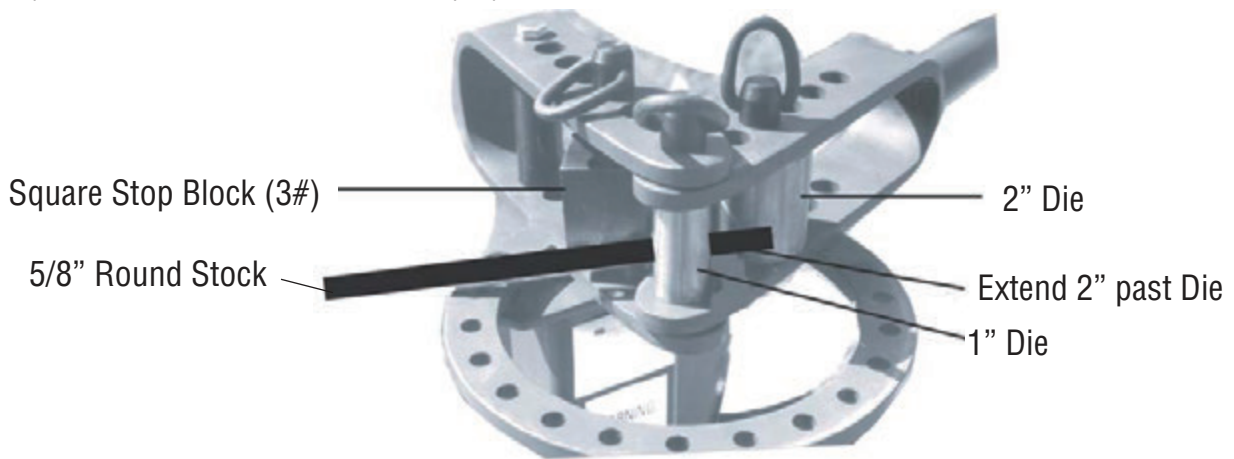

Figure 7
Step 2) Set the appropriate Die into place on the Outer Handle/Die Receiver (9#) between the upper and lower fork. Secure the Die in place by inserting the Short Hitch Pin (2#) through the Outer Handle/Die Receiver (9#) and the Square Stop Block, The Square Stop Block (3#) is held in place against the stock as shown in **Figure 7**.
- Step 2) With the Handle (8# & 9#) in the normal position, place the 1" Die on the Center Pin. Place the 2" Die in the 2nd hole- as in **Figure 7**. Insert the round stock so that the end extends 2" down past the 1" Die - see **Figure 7**. Make the first bend at 90°.